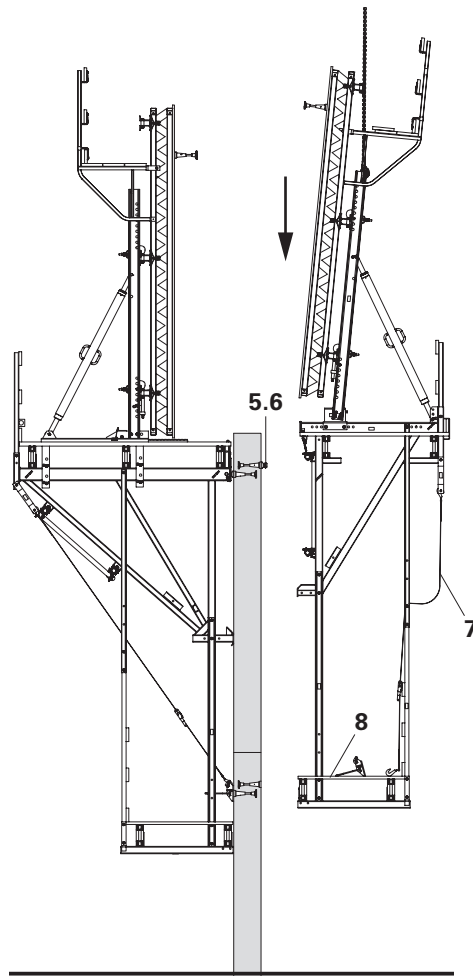

Fig. B1.28
10. Close the planking on the finishing platform (8). (Fig. B1.28)